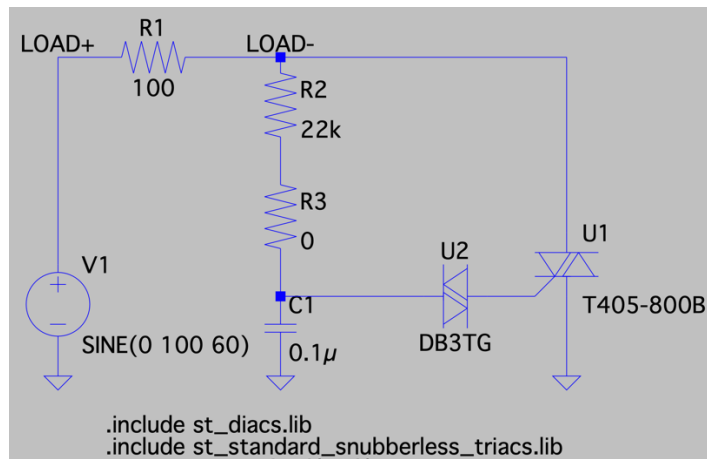

Fig. 6.5. The DIAC-TRIAC power (phase) control circuit
1. Construct the circuit shown on Fig. 6.5. Set the AC voltage source's amplitude and frequency to 100V and 60Hz, respectively.